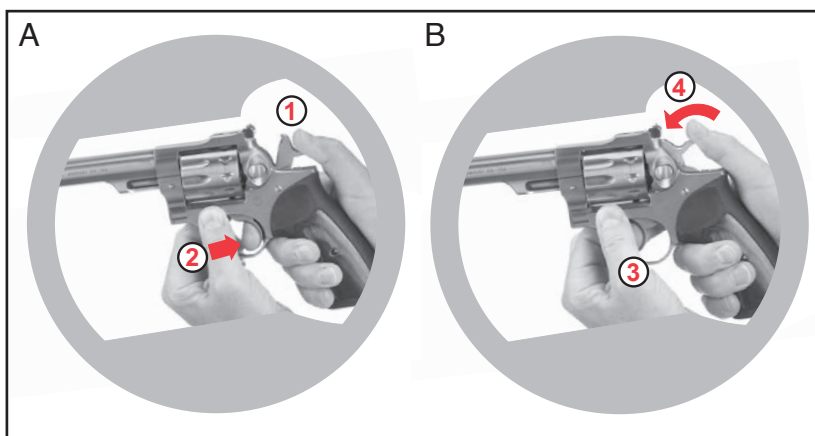

Figure 9
3. Grasp the revolver (if right-handed) so that the thumb and forefinger of your left hand are firmly holding the frame below the middle of the cylinder (see Figure 9, Page 19). Your left hand (if right-handed) should support the full weight of the revolver, allowing you to use your right hand to manipulate the hammer and trigger as outlined below.